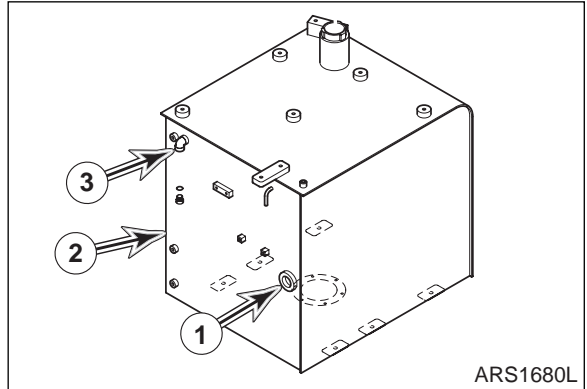

Figure 17
8. Connect wires as tagged to fuel sensor (1, Figure 17) on side of fuel tank (2).
9. If equipped, connect components to fuel filter pump port (3, Figure 17) on side of fuel tank (2).